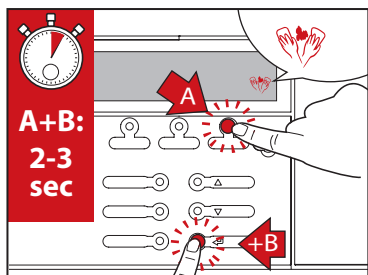

Fig.10
10. Follow the instructions on the Excellence Compact coffee dispenser's display to start the cleaning function. This may include pressing ENTER and STOP simultaneously (for push-button versions), or by pressing START (touchscreen versions) (See Fig.10).
10. Add one RINZA tablet to the cleaning container (See Fig.10).
10. Insert the milk suction tube into the cleaning container (See Fig.10).